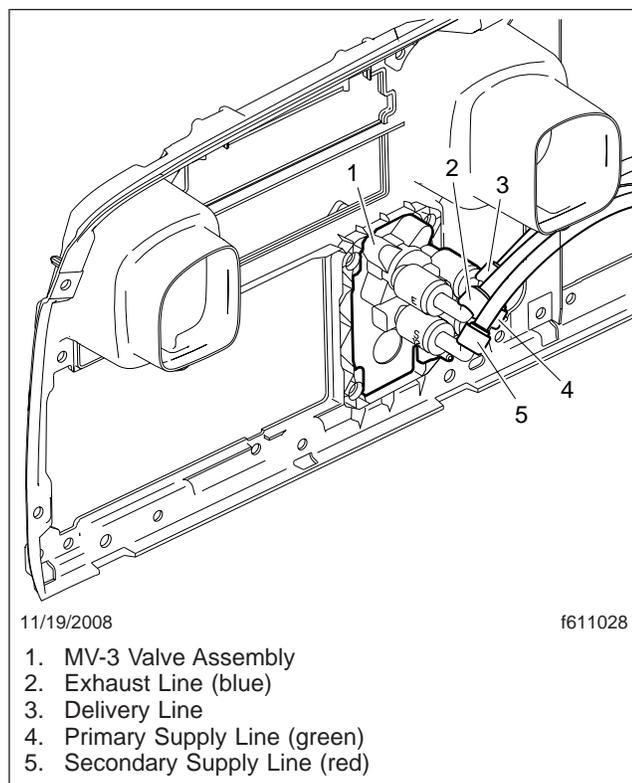

Fig. 5, MV-3 Valve Installed (rear view)
14. Using the previously removed fasteners, install the MV-3 valve in the opening of the dash-panel frame assembly; see Fig. 5 for a rear view of the installed MV-3 valve.